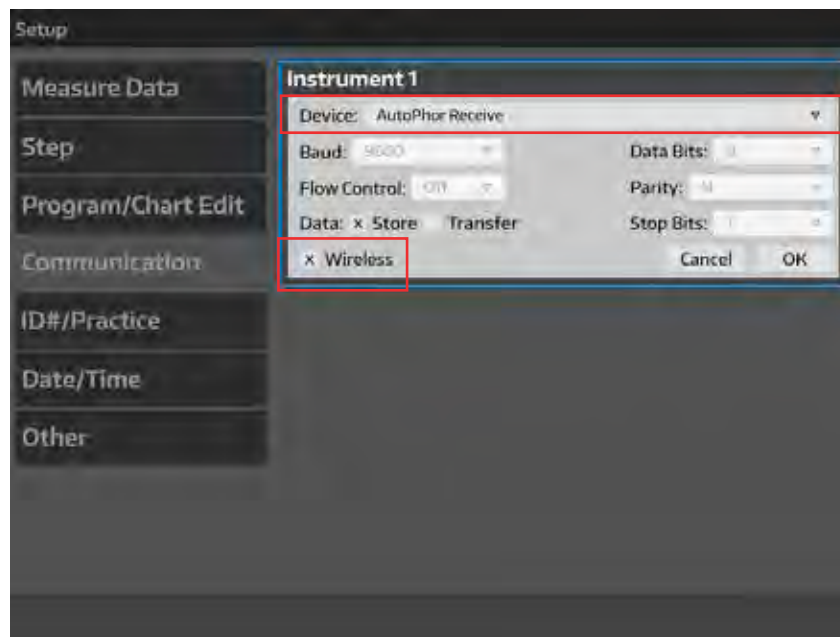

Figure IS-15 Instrument1 Setting Screen
5. Select the device from the drop-down menu and select the wireless check box. Refer to Figure IS-15.